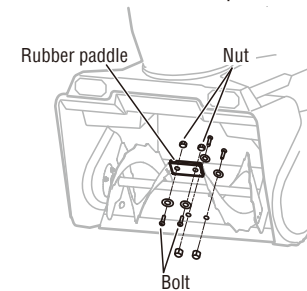

Fig.12
1. Rotate the auger to the appropriate position for easy access to the rubber paddle. (Fig.12)